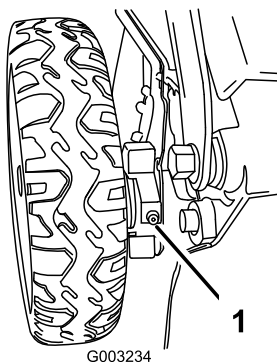

Figure 28
1. Wipe the grease fittings just inside the rear wheels with a clean rag (Figure 28).